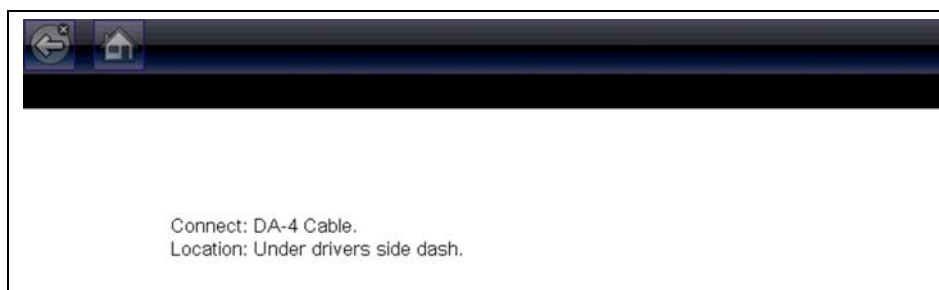

Figure 3-3 Vehicle connection data cable message
On-screen cable and adapter connection instructions are provided while using the Scanner and OBD-II/EOBD functions. The instructions may also include the location of the vehicle DLC (Figure 3-3).
1. After identifying a vehicle using the Scanner or OBD-II/EOBD function, review the on-screen information for data cable usage and DLC location (Figure 3-3).